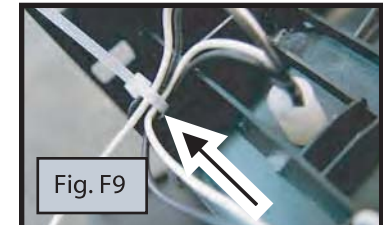

Fig. F9
4. From the outside of the cup holder, install the LED's onto the lenses. Press firmly while holding the Lens from the inside. (Fig. F9)
5. Drill hole on tab on cup holder and secure the Lamp assemblies wire to act as strain relief. (Fig. F9)